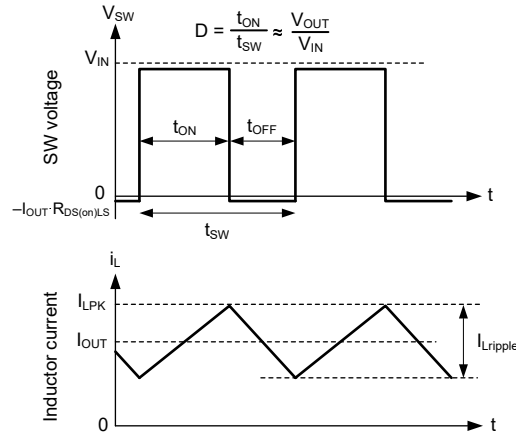

Figure 7-20. SW Voltage and Inductor Current Waveforms in Continuous Conduction Mode (CCM)
The following operating description of the converter refers to the Functional Block Diagram and to the waveforms in Figure 7-20. In CCM, the converter supplies a regulated output voltage by turning on the internal high-side (HS) and low-side (LS) NMOS switches with varying duty cycle (D). During the HS switch on time, the SW voltage, V_{SW} , swings up to approximately V_{IN} , and the inductor current, i_L , increases with a linear slope. The HS switch is turned off by the control logic. During the HS switch off time, t_{OFF} , the LS switch is turned on. Inductor current discharges through the LS switch, which forces V_{SW} to swing below ground by the voltage drop across the LS switch. The control loop adjusts the duty cycle to maintain a constant output voltage. D is defined by the on time of the HS switch over the switching period: